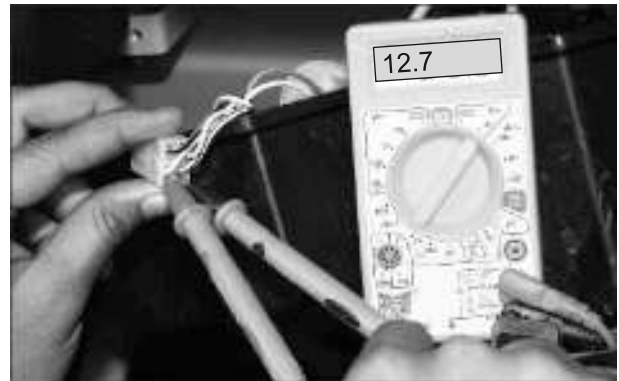

Fig. 6.30
- Connect the '+ve' probe of the multimeter to the White with Red tracer (WR) wire from the magneto assembly and '-ve' probe of the multimeter to the White with Black trace (WB) wire from the magneto assembly. (Fig. 6.30)